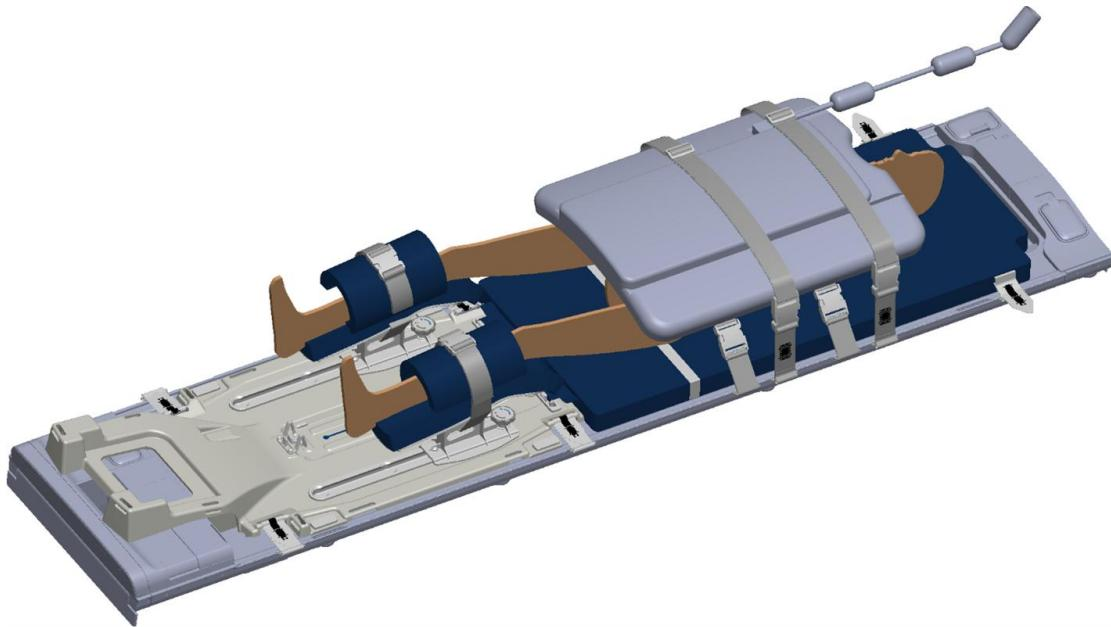

Figure 28: Placement of the anterior imaging coil
3. **MRI Technologist:** Strap the anterior imaging coil over the patient's pelvis and arms. The coil should cover the prostate, without interfering with the travel of the Positioning System (*Figure 28*).